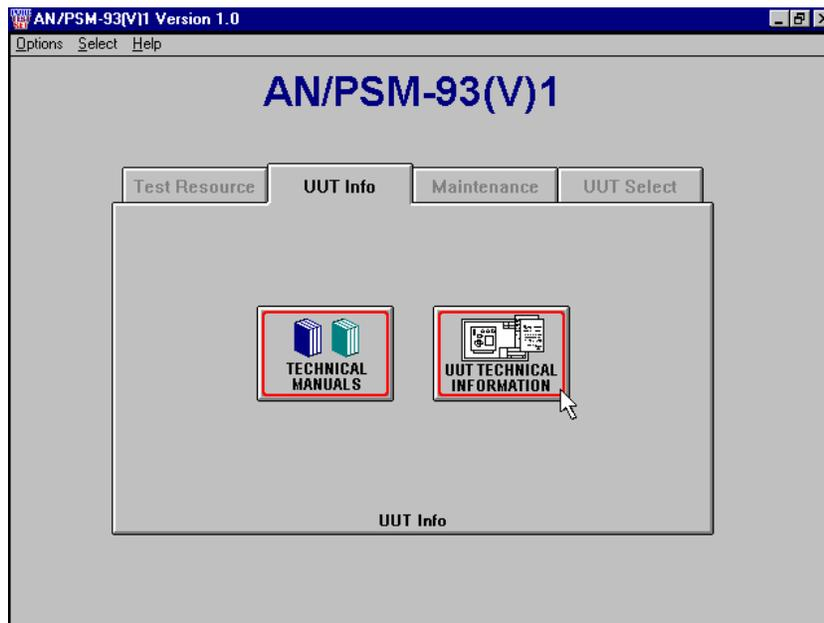

Figure 4. UUT Information Screen
3.1 UUT Technical Information. To select this option, select the UUT INFO folder and click on the UUT TECHNICAL INFORMATION icon. This option allows the operator to choose the type of document to be viewed. The documents available pertain only to the Test Resource most recently selected, as described in paragraphs 2.2.4 and 2.2.5 above. (See Figure 4, UUT Information Screen, below).